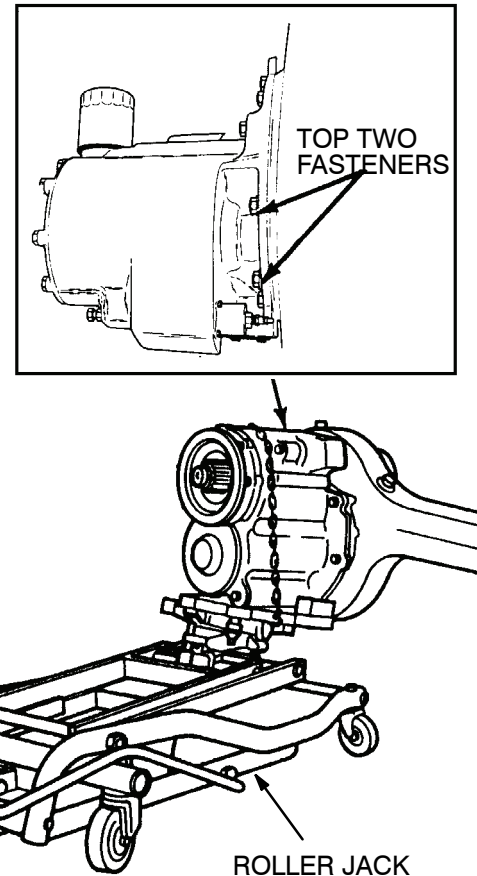

Figure 5. Supporting and Removing the Carrier
- (11) The output shaft is disassembled and assembled in Service Group 430-8.
- (12) Put a hydraulic roller jack under the differential carrier to support the assembly. Figure 5.
- (13) Remove all but the top two carrier-to-housing capscrews or stud nuts and washers. Figure 5.
- (14) Loosen, but do not remove, the top two carrier-to-housing fasteners. The fasteners will hold the carrier in the housing.
- (15) Loosen the differential carrier in the axle housing. Use a leather mallet to hit the mounting flange of carrier at several points.
- (16) After the carrier is loosened, remove the top two stud nuts and washers that hold the assembly in the axle housing.
- (17) Carefully remove the carrier from the axle housing using the hydraulic roller jack. Use